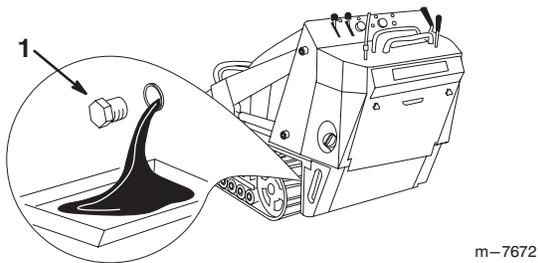

Figure 30
4. Remove the drain plug (Fig. 30).